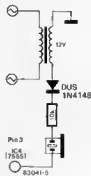

Figure 5. Fully manual calibration is used to set the frequency of the emergency standby power supply. The only other requirement is one human ear!
- Connect the earpiece or tweeter as shown in figure 5.